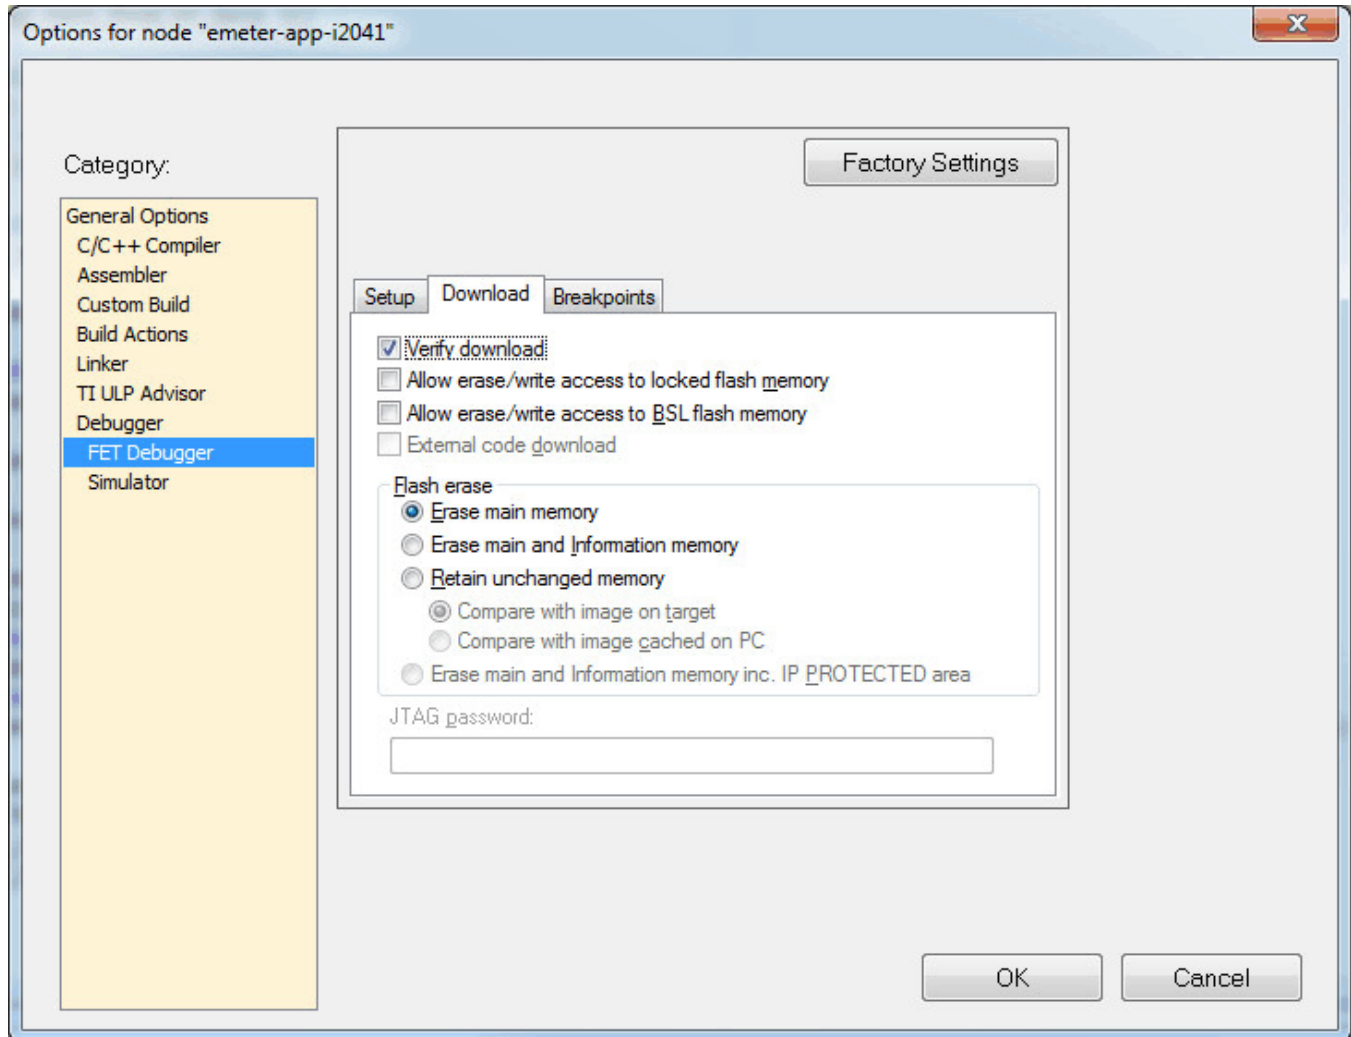

Figure A-4. Download Options
5. Select the **Download** tab. Due to the design of the firmware to protect against unintentional deletion of factory parameters like the calibration for the clock speed, the calibration values are stored in the main memory in flash page 0x8000 to 0x83FF. Thus the calibration value is NOT preserved when **Erase main memory** or **Erase main and information memory** is selected (see Figure A-4). The user should select **Erase main memory** as the option for download to preserve the factory parameters.